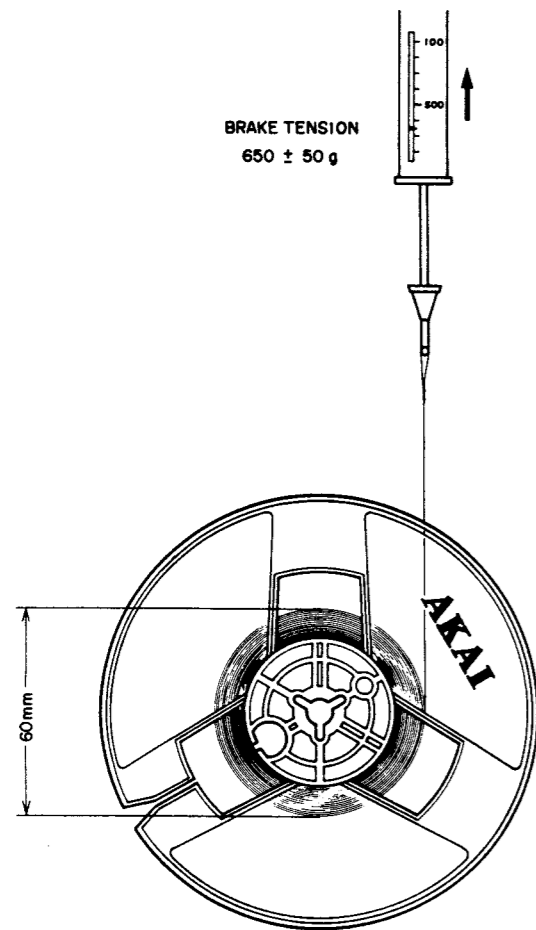

Fig. 9
- 1) As shown in Fig. 9, brake tension is measured with a spring gauge using a 60 mm diameter tape wound on a 5" reel. Ideal brake tension is  $650 \pm 50$  gr. and left/right deviation allowance should be within 50 gr.